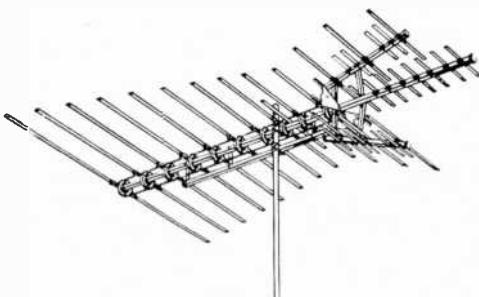

Fig. 5. Jerrold uses circular insulators.
**Multi-Feature Type.** Fig. 5 exemplifies a high-gain all-channel *Jerrold Electronics Corp.* model called the "VU-Finder." Elements are spaced yagi-style. Element lengths get shorter linearly from back to front. The feed harness is transposed, but it is through the unique disc-shaped boom insulators which have imbedded conductors. Every element is driven, with shorter elements acting as directors for longer ones, and longer ones acting as reflectors for shorter ones.